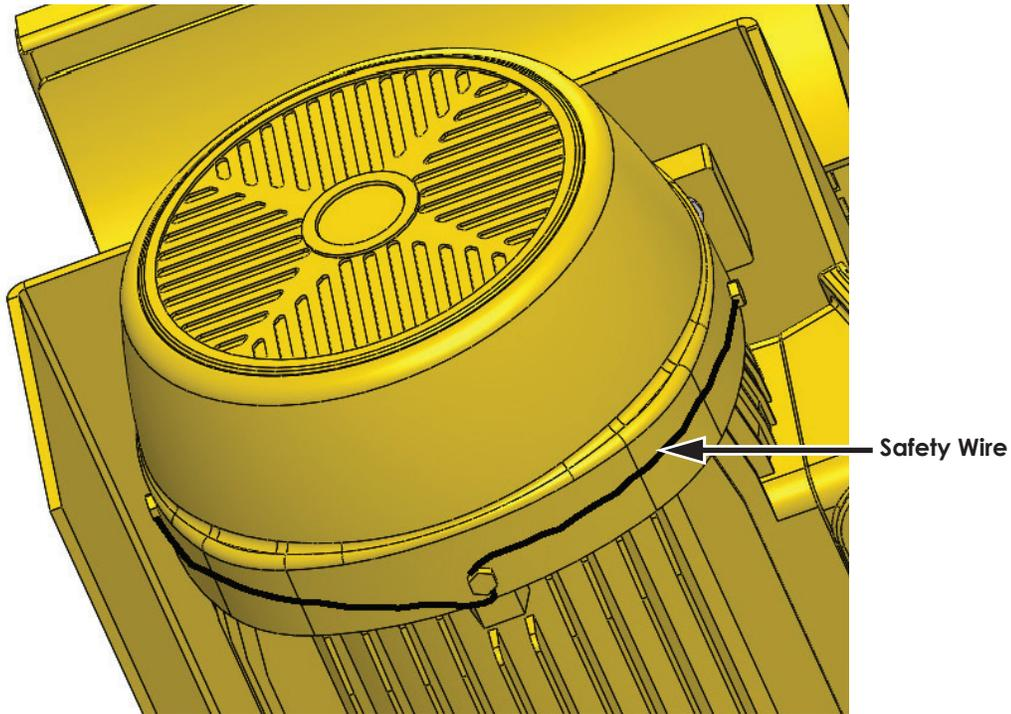

Figure 1: Safety wiring for M8 long screws
2. Drill 3/32" diameter holes through the heads of the screws to allow the installation of safety wire as shown in Figure 1.